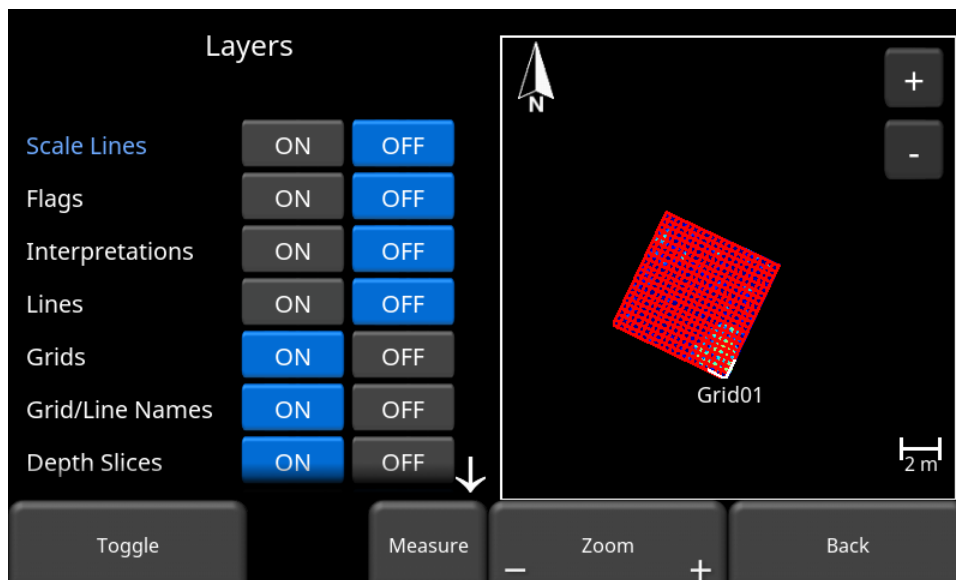

Figure 9-7: Lines turned off
- **Lines** – turning this off will remove all collected lines from the display (white lines turned off in Figure 9-7). It will also remove the line name.